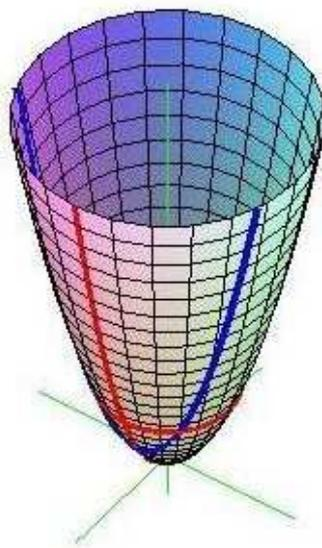

Figure 1: Paraboloid segments & sectors
4. **Segments:** Consider the paraboloid is made up of many small cylinder-like structures of reducing diameters from top to bottom. Each such cylinder-like structure is termed as the segment of the paraboloid. The figure 1 shows circular-segments of a paraboloid mirror.